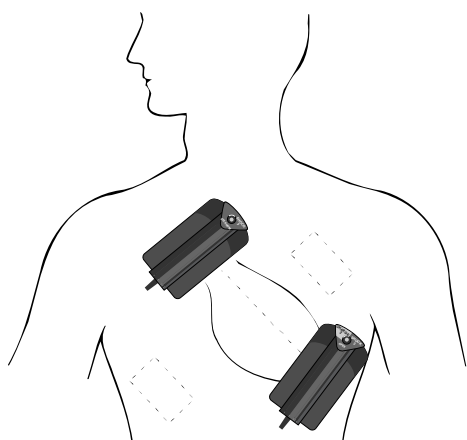

Figure 4-3. Paddle application points (dashed application points for pacemaker patients)
- Apply the paddles on the patient's thorax such that the greatest possible amount of energy flows through the myocardium. The imaginary line connecting the paddle centers should be identical with the cardiac median line (Figure 4-3).